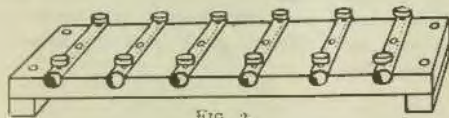

FIG. 2.
$\frac{1}{2}$  in. long and  $\frac{1}{4}$  in. in diameter—will be big enough, and one more than the number of telephones to be used will be required. The panel illustrated (Fig. 2) shows how five pairs can be utilised.
A glance at Fig. 2 will show you that the loose coupler is a double circuit tuner consisting of a primary coil (P) and a secondary coil (S).